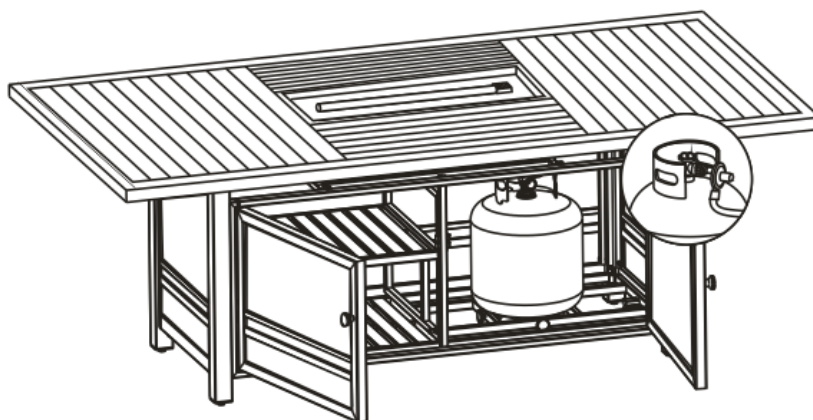

Figure 10
11. Open the tank door, place the tank in the holder and connect the regulator as shown in Figure 10. Turn the black handle clock-wise to tighten. Turn the handle counter-clockwise to remove. The hose must point down. Open the control door and check that the valve is turned all the way clockwise to the "OFF" position. Open the tank valve. Apply a solution of soapy water to the tank-regulator connection and to the valve-hose connection to check for leaks. If soap bubbles continue to form, the connection has a leak. If a leak is found, close the tank valve and tighten all connections. **NEVER USE A FLAME TO CHECK FOR LEAKS.**